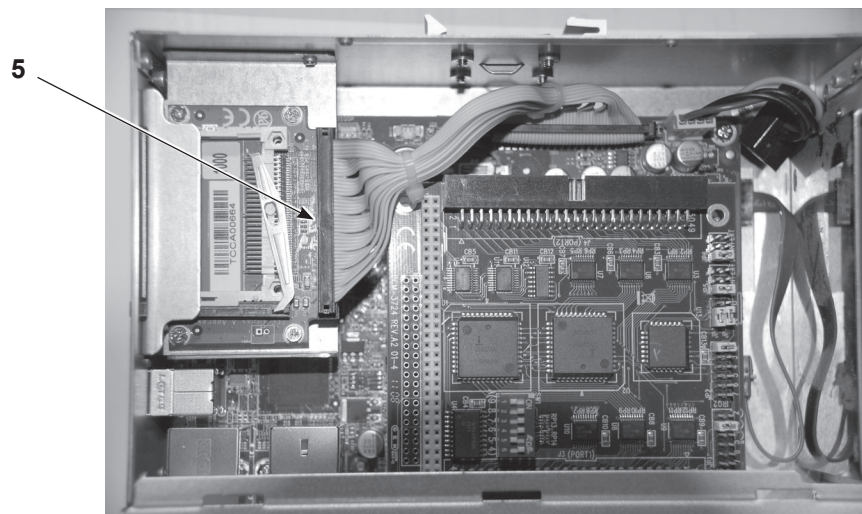

Figure 5-8 Disconnect CompactFlash Adapter
4. See Figure 5-8. Disconnect the ribbon cable (5) from CompactFlash adapter for access to the battery.